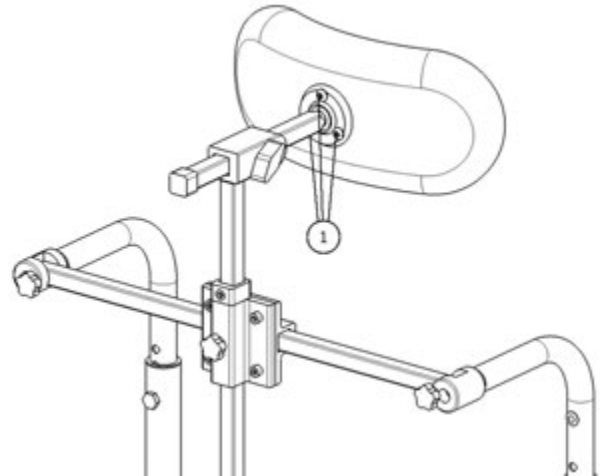

Fig. 31
- Install headrest on the ball pivot and tighten the three screws (1) (Fig. 31).